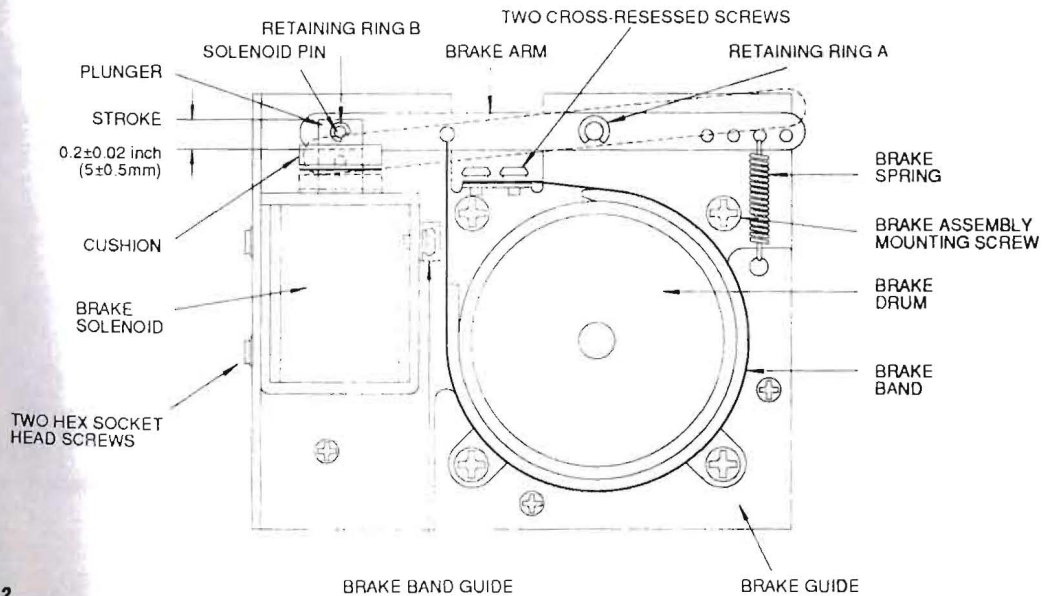

Figure 6-2
9. If the readings are low in both directions, detach the brake spring from the anchor hole on the brake lever and attach the spring to the next hole located further away from the brake solenoid (refer to Figure 6-2).